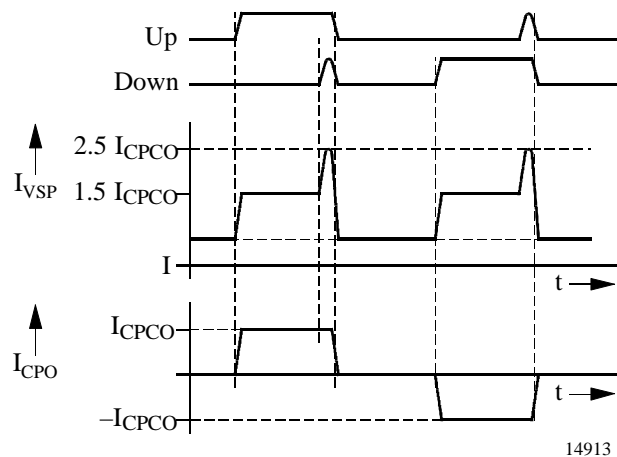
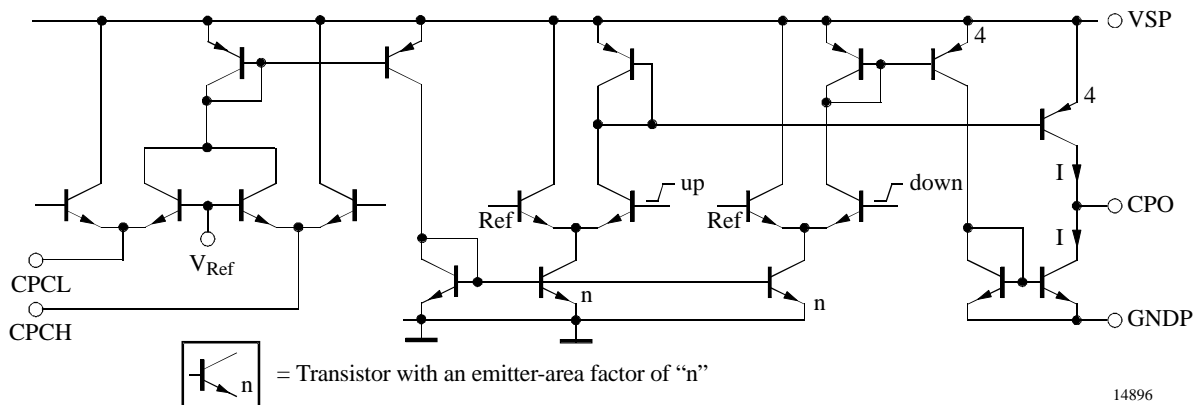

Figure 3. Supply current of the charge pump
Figure 6. Charge pump
- 1) Mean value, measured with $F_{ND} = 151 \text{ MHz}$, $F_{RD} = 150 \text{ MHz}$, current vs. time, figure 3
Due to the pulsed operation of the charge pump, the current into the charge-pump supply Pin VSP is not constant. Depending on I (see figure 6) and the phase difference at the phase-detector inputs, the current I_{VSP} over time varies. Basically, the total current is the sum of the quiescent current, the charge-/discharge current, and – after each phase comparison cycle – a current spike (see figure 3).